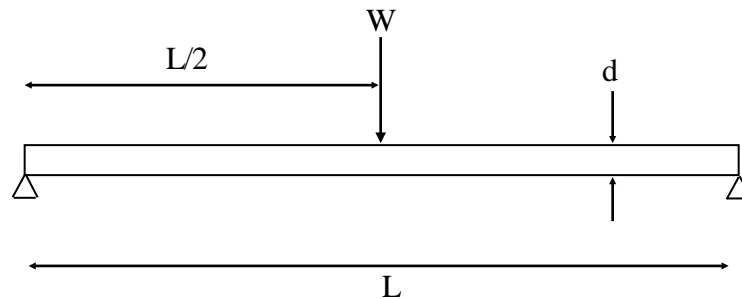

Figure 4: Schematic of simply-supported shaft with centered load.
- p) Measure the length L and diameter d of the shaft. See Figure 4. **Note:** the effective rotor length, L , is the distance between the bearing blocks.